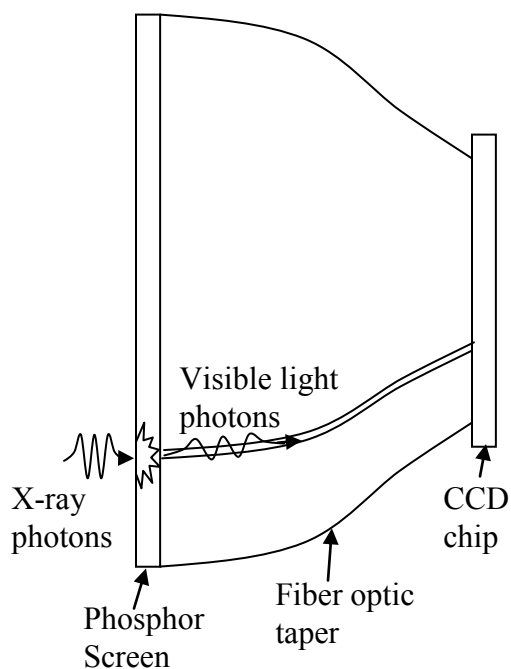

Figure 18 - Side view of CCD X-ray detector (not to scale)
- **X-ray conversion to light by phosphor screen (see Figure 18)**
- **Light demagnification onto CCD (see Figure 18)**